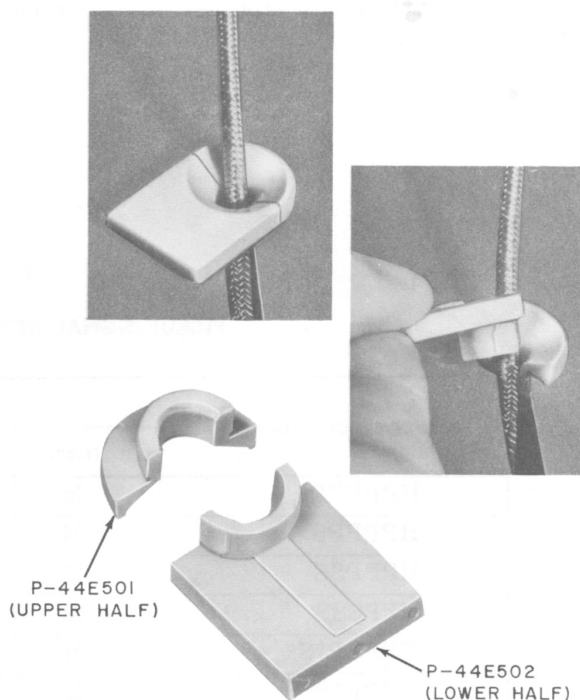

Fig. 1—Removal of Handset Grommet
- (1) Grasp mat retainer frame at top, lift upward and out to release frame from panel of set.
- (2) Remove handset from hook of set.
- (3) Pull out handset cord to allow working slack.
- (4) Remove mat from face of panel.
- (5) Remove grommet from mat as shown in Fig. 1.
- (6) Install grommet in new mat by reversing procedure used in removal.
- (7) Position mat on panel and secure using the mat retainer frame.